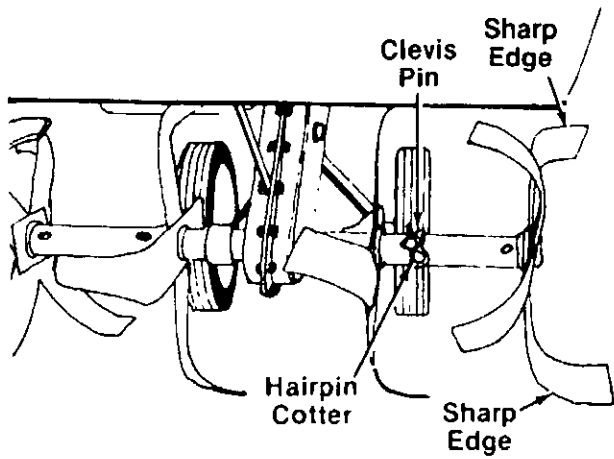

FIGURE 7.
7. Remove the clevis pin and hairpin cotter from the inner tine assemblies as shown in figure 7. Place the right and left hand tine assemblies in position on tine shaft. Secure with clevis pins and hairpin cottes.
Be certain the tine assemblies are assembled on the tine shaft so that the sharp edge of the tines enter the soil first. See figure 7.